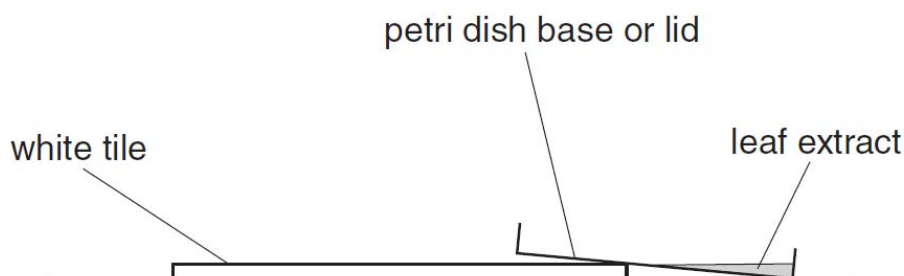

Fig. 2.1
- 5 Clean the surface of the white tile and place a Petri dish on the edge of the tile as shown in Fig. 2.1. Ensure that the Petri dish is tilted.
- 6 Pour the leaf extract from the plastic container into the Petri dish and allow it to drain to the edge of the dish as shown in Fig. 2.1.